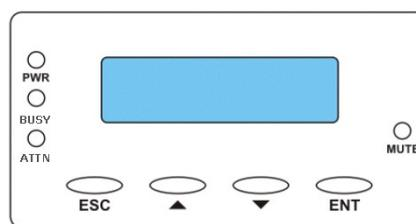

Figure 4-4: LCD Keypad Panel
The LCD keypad as shown in *Figure 4-4* consists of five (5) buttons, three (3) LEDs, and a 16x2-character LCD screen that displays subsystem status. Press the **ENT** button for two (2) seconds on the initial screen to enter the main menu. Press the **ESC** button to clear the current event.